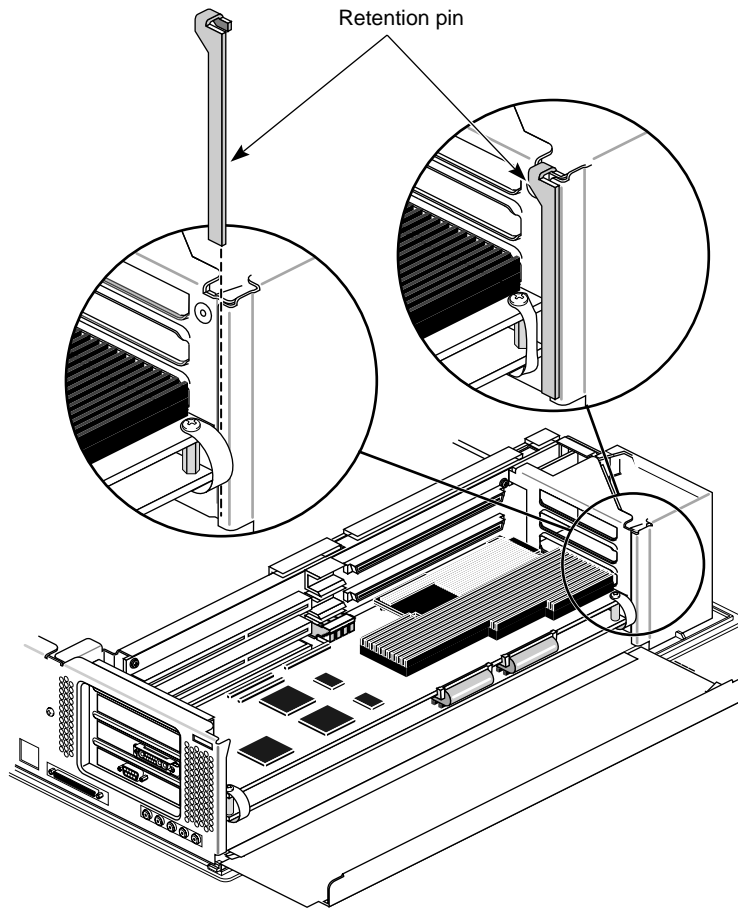

Figure 5-51 Replacing the Retention Pin
7. Hang the retention pin so that it sits in front of the board set. The retention pin prevents the board set from moving away from the connectors. See Figure 5-51.